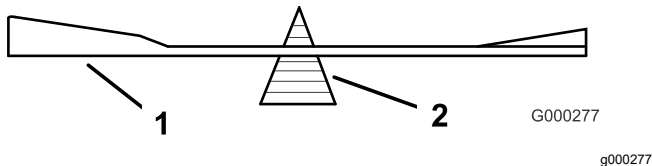

Figure 74
2. Check the balance of the blade by putting it on a blade balancer (Figure 74).